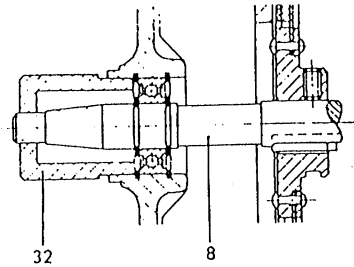

Figure 6.
Turn centering sleeve (32) onto the clutch shaft (8) until it bottoms, Figure 6. The centering sleeve is supplied with every replacement shipment of discs. This sleeve is necessary to protect the shaft bearing and for correct adjustment of the clutch air gap "A".
Remove the centering sleeve (32) Figure 6. from clutch shaft.